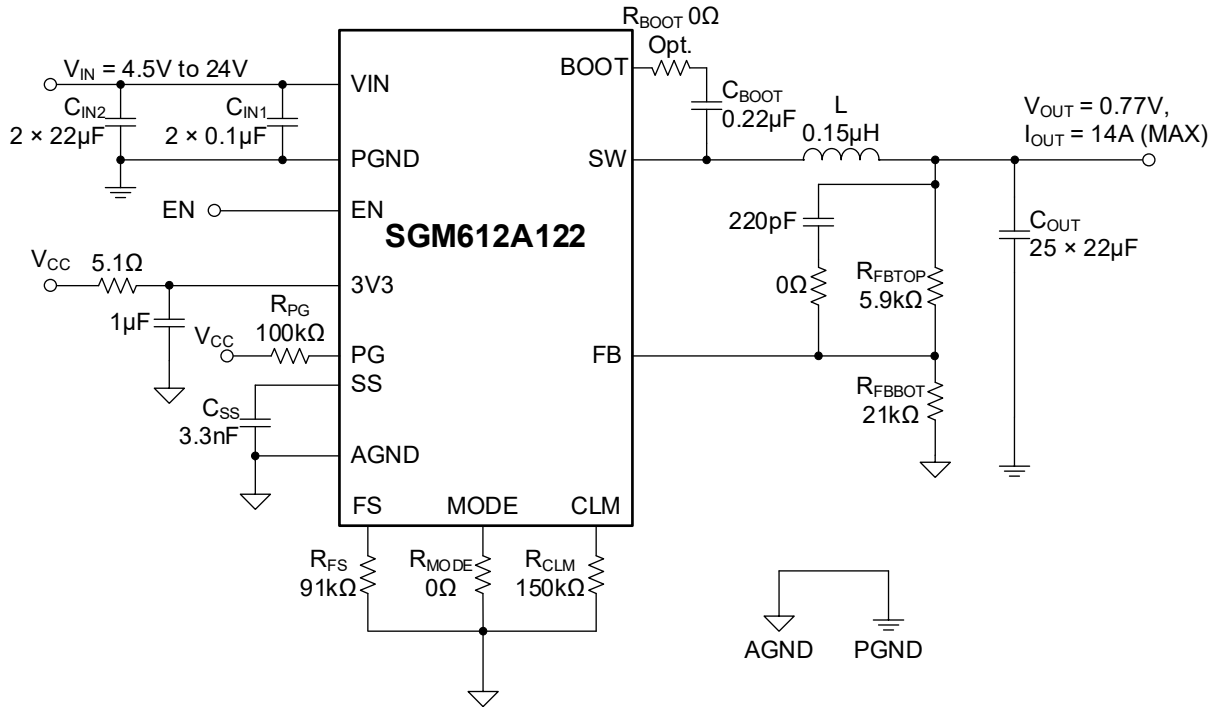

Figure 3. Typical Application
(C_{BOOT}) is used to provide this higher voltage for supplying the HS gate driver. C_{BOOT} is charged through the internal bootstrap switch from 3V3 when the low-side (LS) switch turns on and SW node is at around 0V. When the LS switch turns off and HS switch turns on, the SW voltage will rise to the V_{IN} rail voltage. The C_{BOOT} voltage is charged to $V_{IN} + 3V3$ voltage to supply the HS driver. Refer to Figure 3 for C_{BOOT} selection.
The design method and component selection for the SGM612A122 Buck converter are explained in this section. A typical application circuit for the SGM612A122 is shown in Figure 3. It is used for converting a 4.5V to 24V supply voltage to a lower 0.77V output voltage with a maximum output current of 14A.